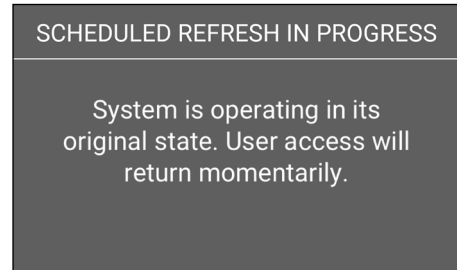

Figure 18. Scheduled refresh screen
2. The refresh screen will appear for several seconds and then the device will re-start into the state it was in prior to the refresh. (Fig. 18). The status lights will turn red during the duration of the reboot.